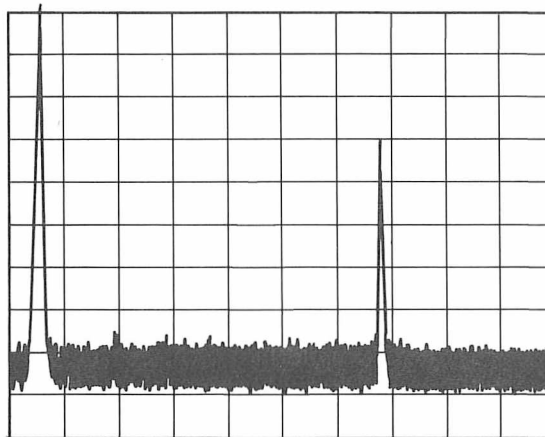

Figure 5-42. *Unlevelled Squegging Displayed on Spectrum Analyzer*
29. Using the STEP UP key on both the 8340A Under Test and the Local Oscillator 8340A, step through Band 2, observing the Spectrum Analyzer display at each step. There may be responses due to mixing products. These will appear as low level signals. A squegging response will appear as a higher amplitude signal as shown in Figure 5-42. If squegging occurs at 8340A frequencies below 10 GHz, adjust A24R3 (X2A) slightly CCW to eliminate the squegging. If squegging occurs at frequencies above 10 GHz, adjust A24R4 (X2B) to eliminate the squegging. Note, if the control is adjusted and there is no effect on the response, the response is probably a mixing product.